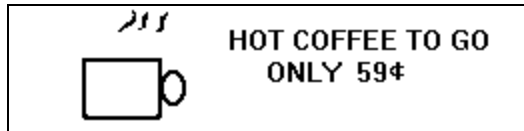

Figure 7-41 Advertisement Graphic
- * **Graphic Chain** - Graphic display advertising messages are sequences of commercial messages that run while a customer dispenses fuel. Graphic Chain programming allows you to display advertising artwork on your CAT to enhance fueling instructions or increase the effectiveness of an advertising message. See Figure 7-41.